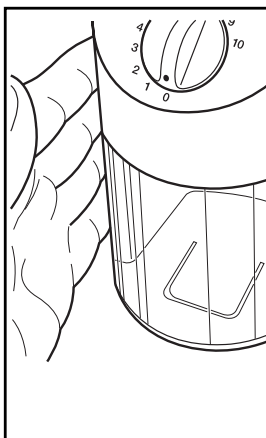

Fig. 7
10. Before removing the ground coffee container, tap the machine a few times (Fig. 7). This will relieve some of the static build-up which occurs when grinding.